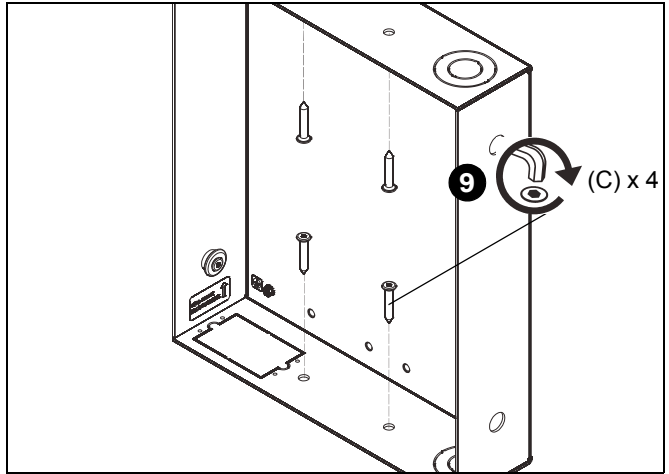

Figure 5
9. Attach the TA502 (A) to horizontal framing using four M7 x 40mm Allen head connector screws (C) using an M4 Allen head drill bit (F). (See Figure 5)